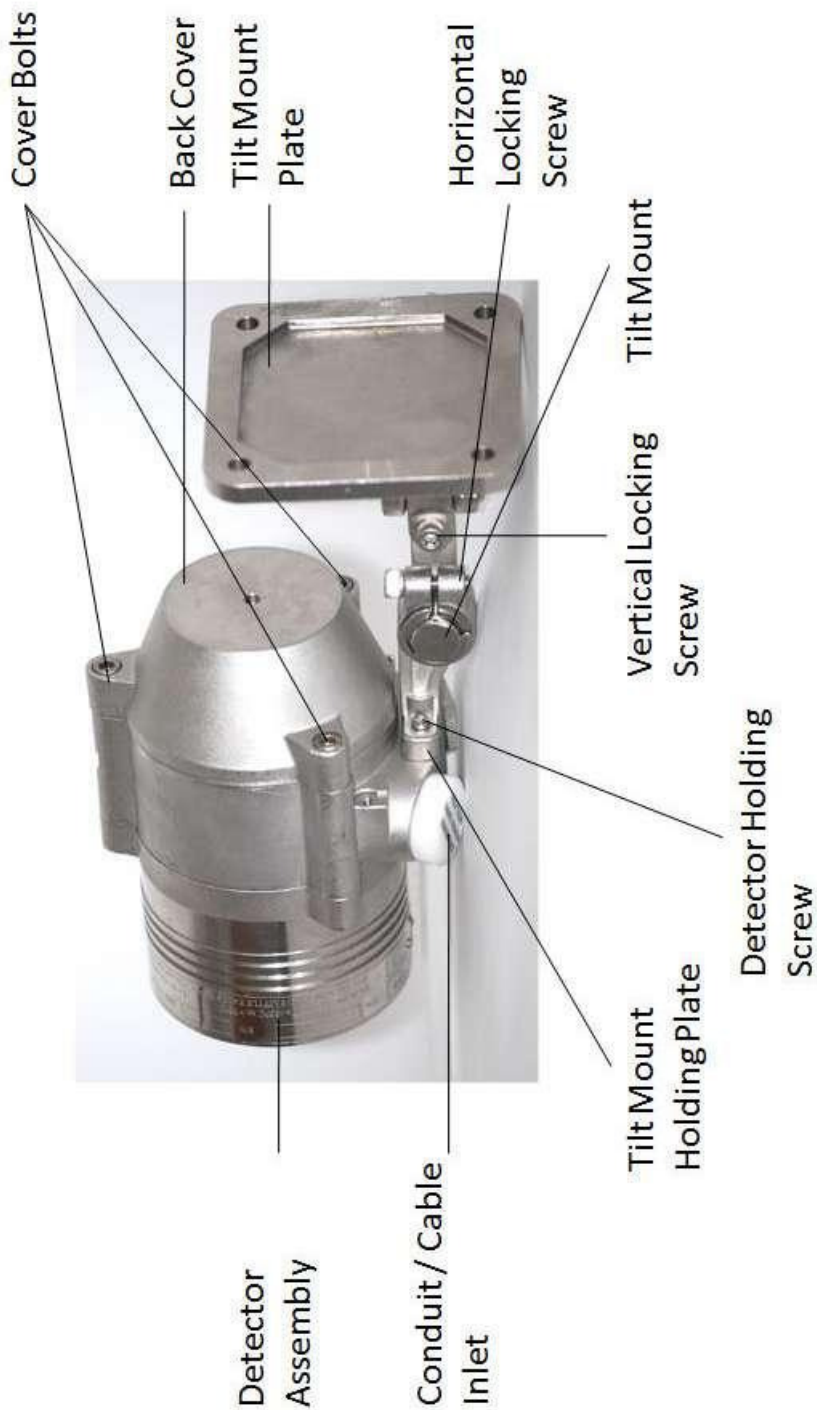

Figure 3: Detector with Tilt Mount
The Tilt Mount enables the detector to be rotated up to 60° in all directions. Figure 3 shows the Detector mounted on the Tilt Mount.
- 9 Place and secure the detector's back cover by screwing the four (4) socket-head-screws in the Cover Bolts (Figure 3).